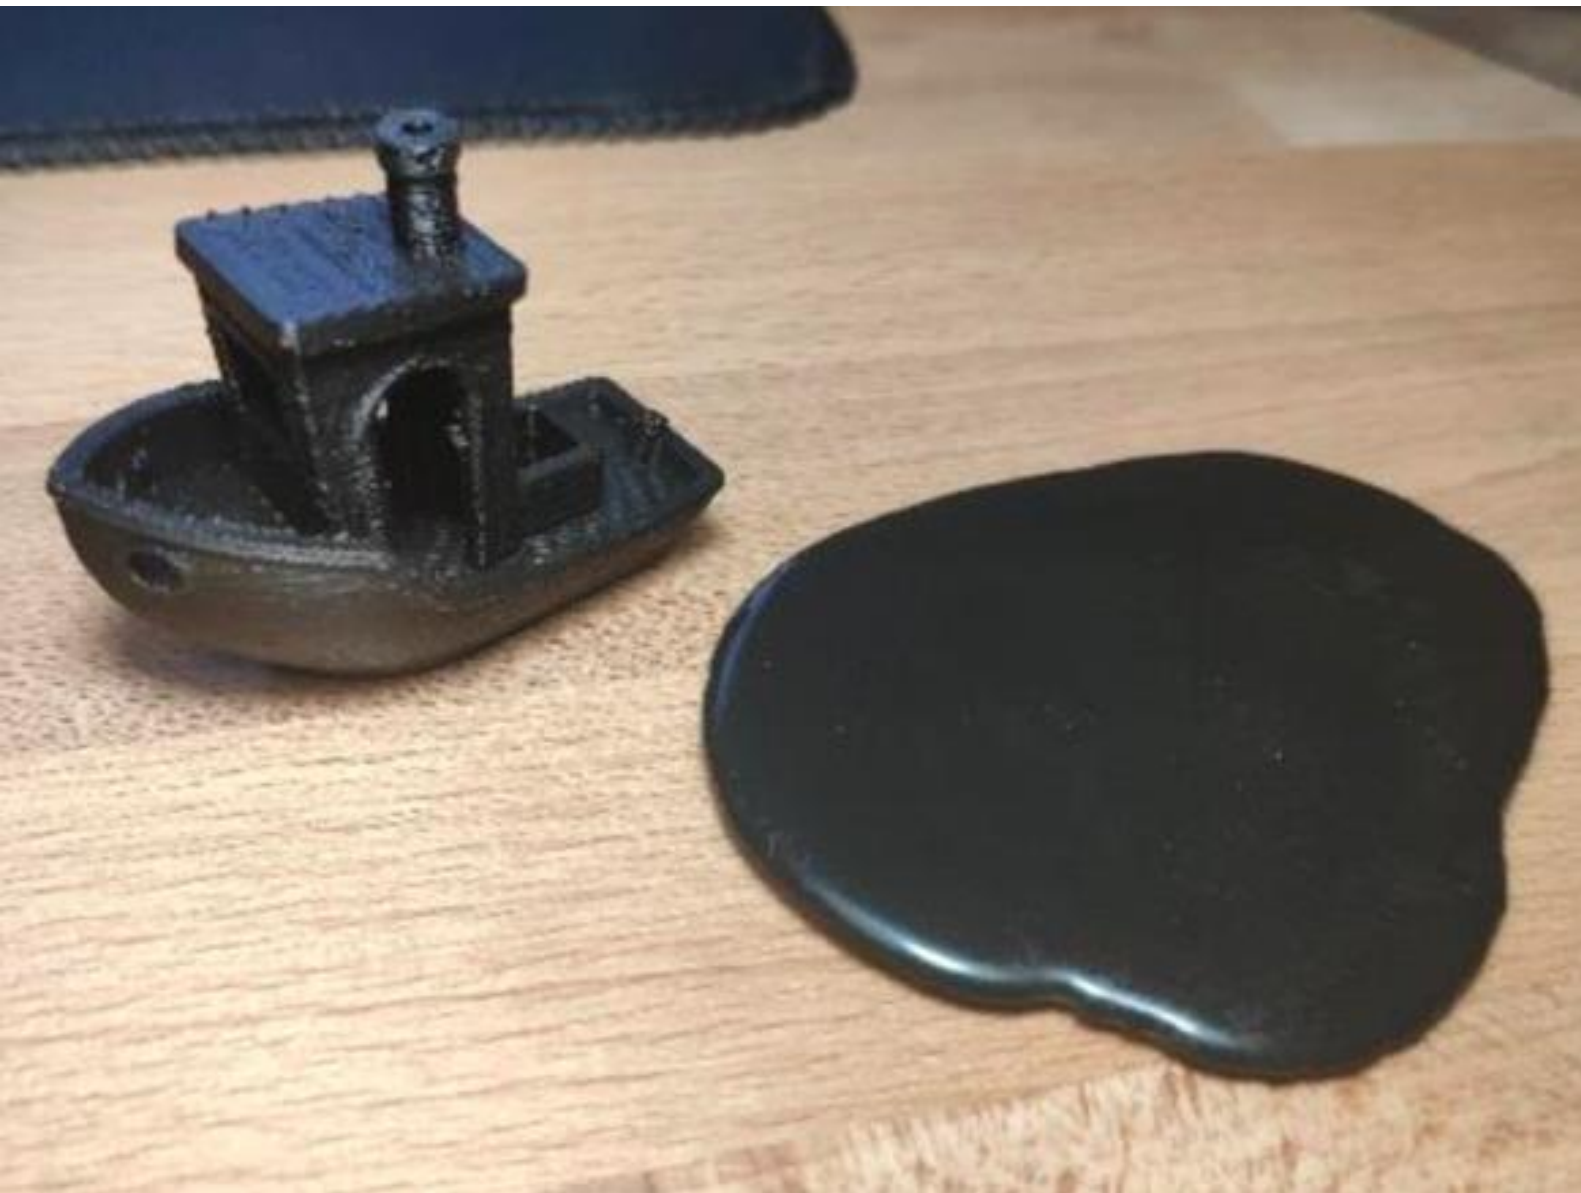

Figure 33 - Melted part after heat test. Used with approval of N. Van Silfhout, 2020.
3. **Heat resistance testing.** If your part will have to withstand high temperatures or be close to components that get hot, we recommend testing it for temperature resistance before installing it in the product. This will allow you to identify if the part will be able to withstand normal use and avoid accidents caused by melted parts. Examples of testing methods are: Putting the part in an oven or submerging it in hot water for a certain amount of time. A heat gun or hairdryer can also be used for the testing, but temperature is less controllable. You can gradually increase the temperature and observe if the part deforms in any way. Mechanical testing can also be done after heat exposure to identify any differences in mechanical properties before and after. Figure 33 shows an example of a part melting after being exposed to hot air from a heat gun.